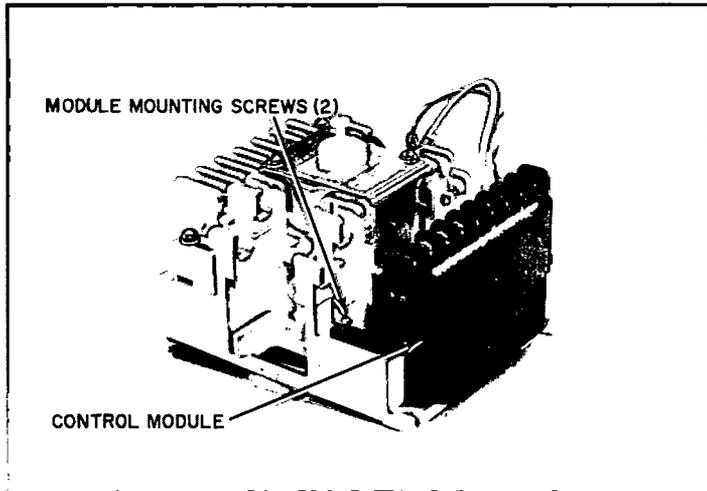

Figure 4.
1. For contactors with up to 6-poles the module is mounted to the lower part of the contactor with the two #6 x 3/8-inch long screws. See Figure 4.